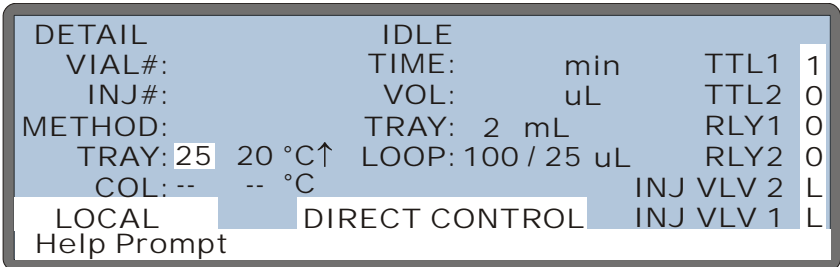

Figure E-8. Detail Status Screen: Simultaneous Injection Mode
- 1. Go to the **DETAIL STATUS** screen (press **Menu** and **2**) (see Figure E-8).